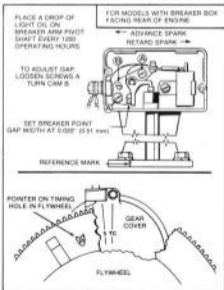

FIGURE 3-63. MCGK IGNITION TIMING
Ignition breaker points, Figure 3-63, must be correctly gapped. Crank engine to fully open breaker points (1/4 turn after top center). Loosen locking screws (A) and turn cam (B) to adjust. Tighten breaker points and recheck gap. Correct point gap is .020 inch (0.51 mm) measured with a flat thickness gauge.